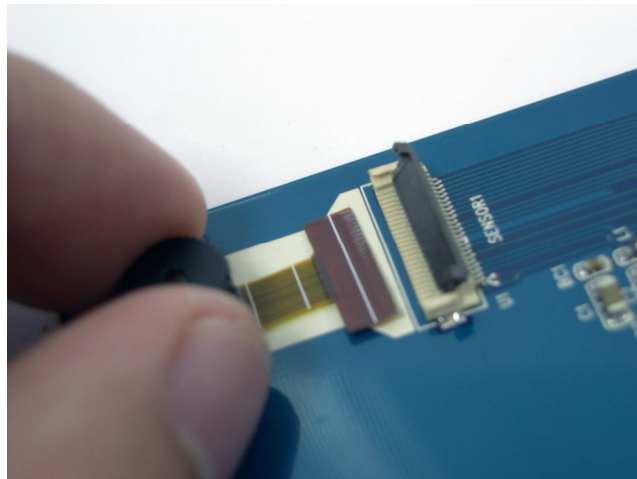

Figure 1.2 Connect the Sensor to “SENSOR1 U1” (For **DE2/DE2** Users ONLY)
1. For Altera DE2/DE1 board users, assemble the CMOS sensor lens into the 1st Sensor Connector (Sensor1-U1) on the **DC2** board, as shown in Figure 1.2.